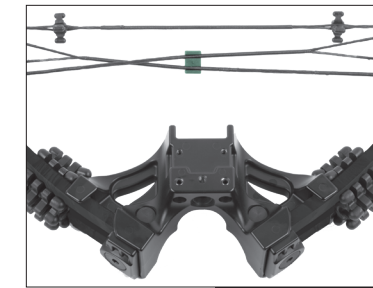

FIGURE 1
- 1** First, attach the cable slide (Part C) to the cables so that the cables cross on the left side of the riser by clipping the two cables into the two grooves in the cable slide. The wider end of the cable slide should face towards the back of the crossbow, as pictured in Figure 1.